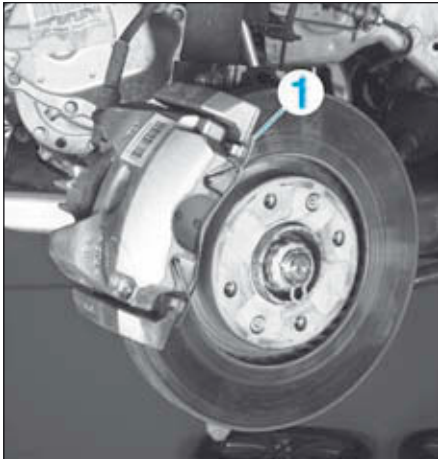

FIG.2
- Déposer le ressort (1) (Fig.2).